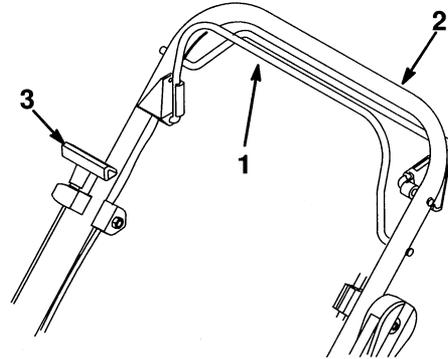

Figure 13
3. Hold blade control bail against upper handle (Fig. 13).
4. Pull starter handle lightly until resistance is felt, then pull sharply (Fig. 13). Let rope return to handle slowly.